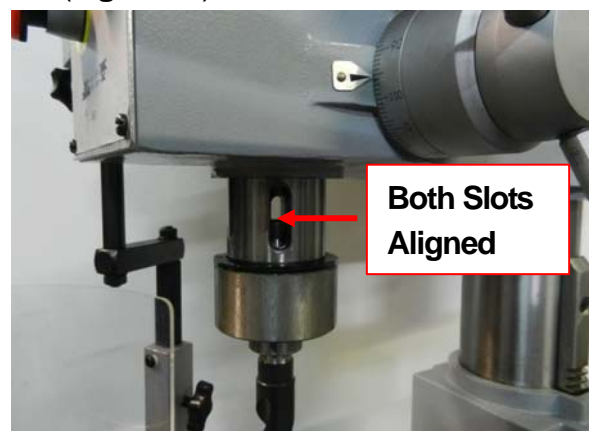

Figure 19
5. Rotate the spindle until the inner drift-key slot is aligned with the outer slot, as shown in (**Figure 19**). You will see through the spindle when the slot is properly aligned.